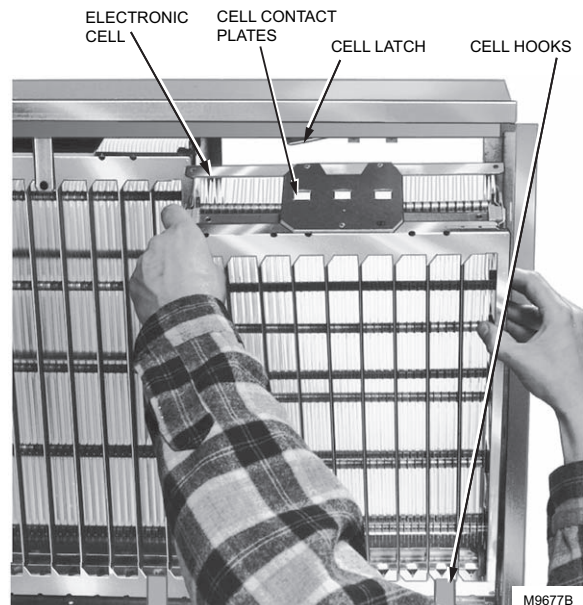

Fig. 15. Make sure hooks snap over edge of cell.
1. Hold the cell(s) by the handle(s) and fit the end of the cell(s) behind the metal hooks. See Fig. 15.